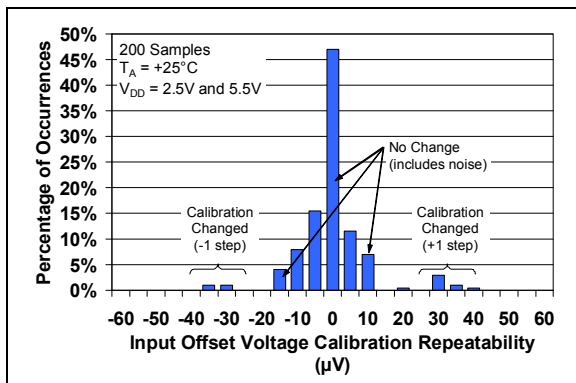

FIGURE 2-3: Input Offset Voltage Repeatability (repeated calibration).
- 2:** Increment between adjacent V_{OS} trim points; Figure 2-3 shows how this affects the V_{OS} repeatability.